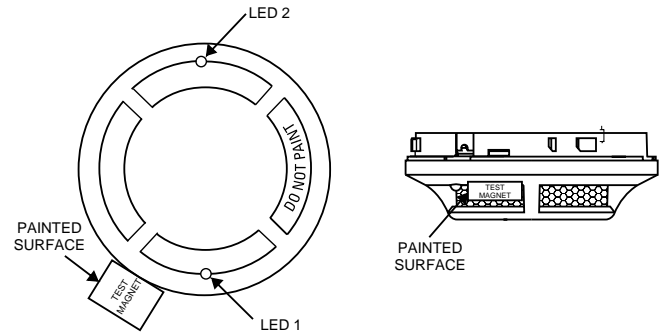

Figure 3. Test Magnet Positioning
4. See Figure 3. Test the sensor by positioning a test magnet against the sensor plastic in the magnet test area. The alarm level should be recognized at the panel and the LED controlled by communication command from the panel.
1. Test the sensor by positioning the optional test magnet against the sensor plastic in the magnet test area, as shown in Figure 3.